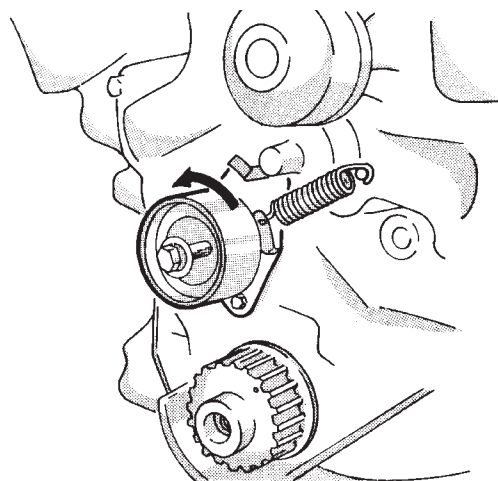

Fig. 17 Positioning Belt Tensioner
- (3) Turn timing belt tensioner counter-clockwise full travel in adjustment slot and tighten bolt to temporarily hold this position (Fig. 17).